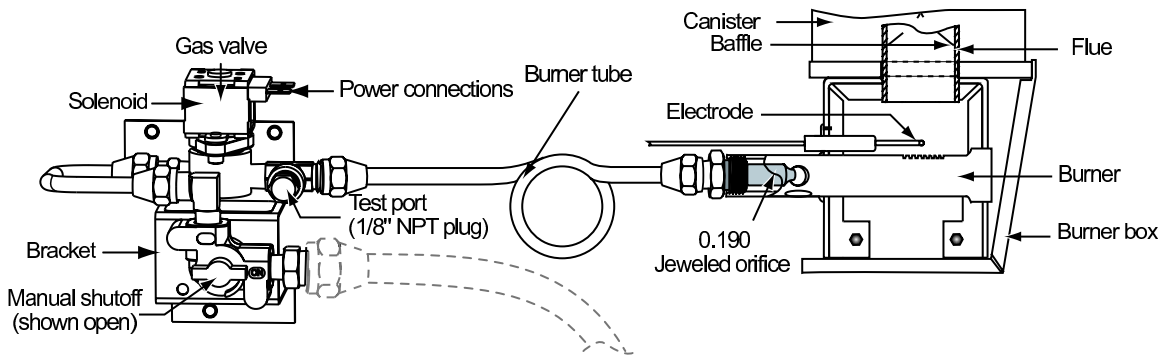

Figure 14. LP gas system, units with S/N 882583 and lower
The refrigerator LP gas system, shown in Figures 14 and 15, is for propane gas use only. The system working pressure is 10.5 to 11.5 in. water column. Propane gas pressures below 10.5 in. w.c. or above 11.5 in. w.c. will affect heat output which will directly affect cooling efficiency.
**For steps 6 - 8, refer to Figures 14 and 15, page 24.**